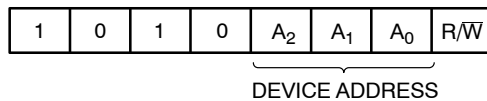

Figure 3. Slave Address Bits
The Master addresses a Slave by creating a START condition and then broadcasting an 8-bit Slave address. For the N24C64, the first four bits of the Slave address are set to 1010 (Ah); the next three bits, A₂, A₁ and A₀, must match the logic state of the similarly named input pins. The R/\overline{W} bit tells the Slave whether the Master intends to read (1) or write (0) data (Figure 3). The device in WLCSP with 4 bumps responds only to address combination A2A1A0 = 000.